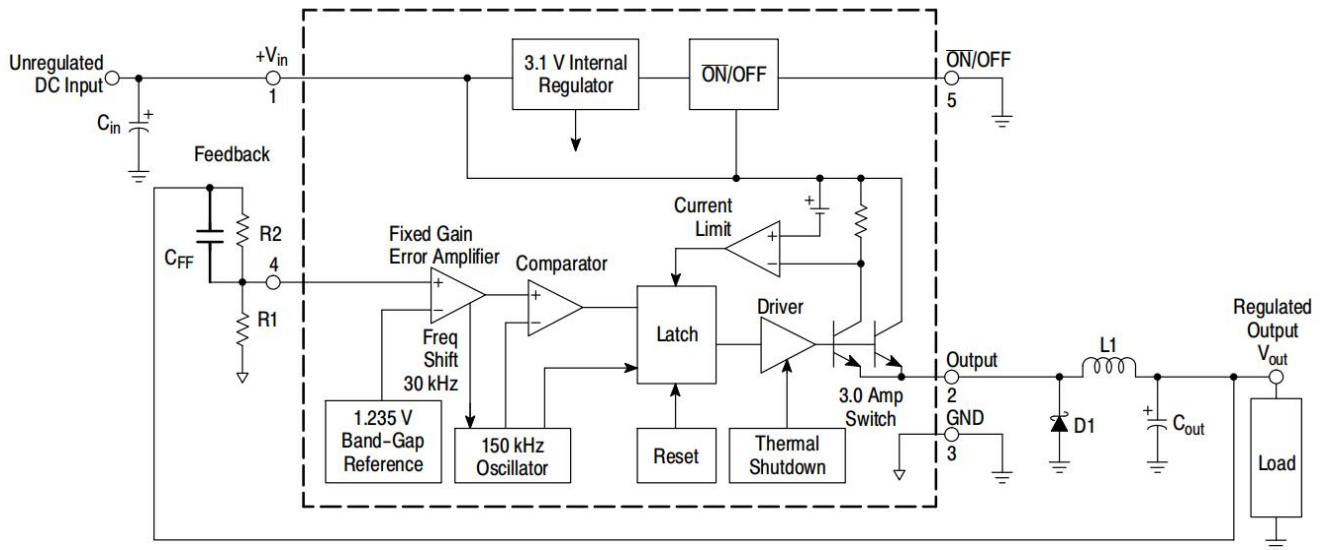

Figure 1. Typical Application and Internal Block Diagram
1. Programming Output Voltage To select the right programming resistor R1 and R2 value (see Figure 1) use the following formula: $V_{out} = V_{ref} \left(1.0 + \frac{R2}{R1} \right) \text{ where } V_{ref} = 1.23\text{ V}$ Resistor R1 can be between 1.0 k and 5.0 kΩ. (For best temperature coefficient and stability with time, use 1% metal film resistors). $R2 = R1 \left(\frac{V_{out}}{V_{ref}} - 1.0 \right)$	1. Programming Output Voltage (selecting R1 and R2) Select R1 and R2: $V_{out} = 1.23 \left(1.0 + \frac{R2}{R1} \right) \text{ Select } R1 = 1.0\text{ k}\Omega$ $R2 = R1 \left(\frac{V_{out}}{V_{ref}} - 1.0 \right) = \left(\frac{5\text{ V}}{1.23\text{ V}} - 1.0 \right)$ $R2 = 3.0\text{ k}\Omega, \text{ choose a } 3.0\text{k metal film resistor.}$